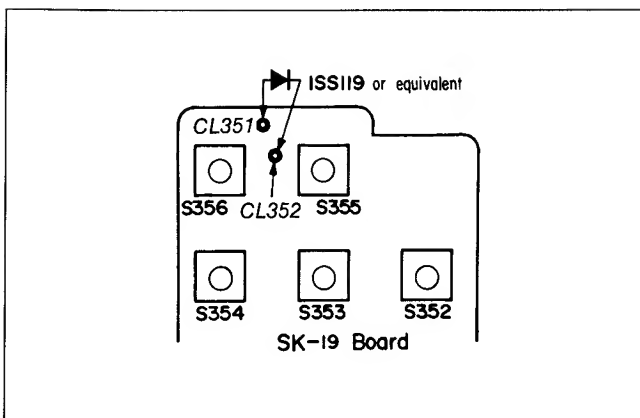

Fig. 9-4.
- 3) Connect check land CL351 (Pin ⑦ of CN304) on the SK-19 board and CL352 (Pin ① of CN304) with diode (1SS119 or equivalent) and set to test mode. Refer to Fig. 9-4.
- 2) Connect the CL351 and CL352 of the SK-19 board with a diode (ISS119 or equivalent) for set up TEST mode as shown in Fig. 9-4.